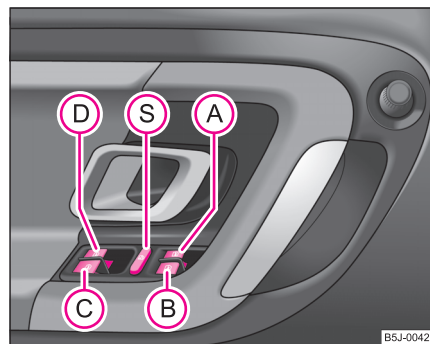

Fig. 29 Buttons on the driver's door
The switches for the individual windows are located in the operating part in the driver's door $\Rightarrow$ page 50, fig. 29, front passenger door and in the rear doors*.
You can deactivate the switches for power windows at rear doors by pressing the safety pushbutton  $\Rightarrow$ page 50, fig. 29. The buttons for power windows at rear doors are activated again by pressing the safety pushbutton  again.
- It is recommended to deactivate the electrically operated power windows in the rear doors (safety pushbutton)  $\Rightarrow$ page 50, fig. 29 when children are being transported on the rear seats.